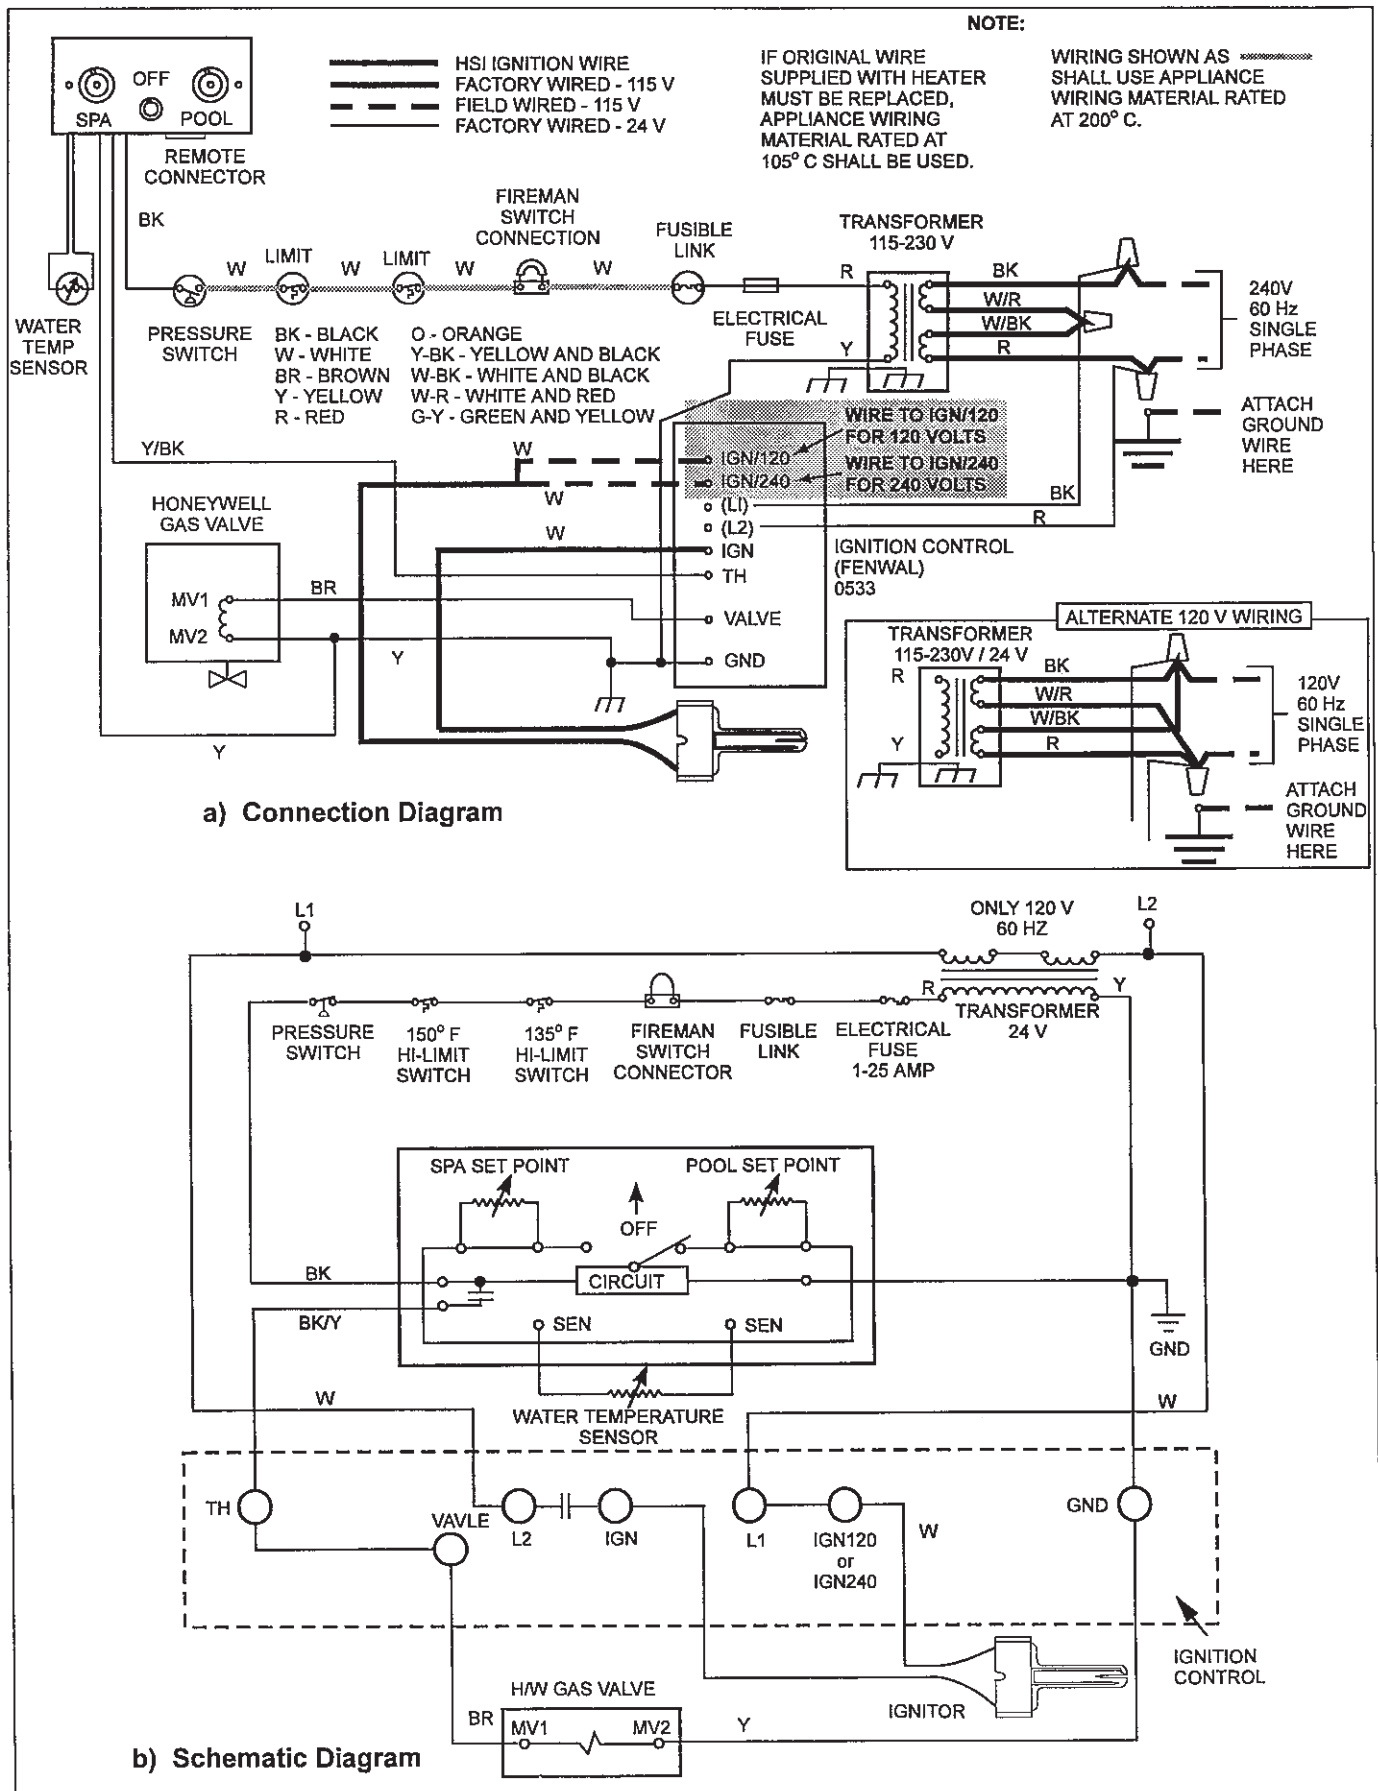

Figure 6. LLD Connection/Schematic Wiring Diagram.
Wiring connections must be made exactly as shown in the wiring diagram found on the inside of the heater (see Figures 6 and 7 for typical examples) and must include a definite means of grounding. There is a bonding lug on the right side of the heater, where a bond wire must be attached.
terminal block located in the control compartment (see Figure 6) and connecting the two wires from the remote to the two terminals on the terminal block. This type of remote control will turn the heater on or off, but will not switch between the two temperature controllers on the Flex-Temp control panel.
10. Tag and disconnect the white wire on the pressure switch (PS) and the white wire on the Fireman's switch terminal (see Figure 6 or 7) which leads to the high limit switch.